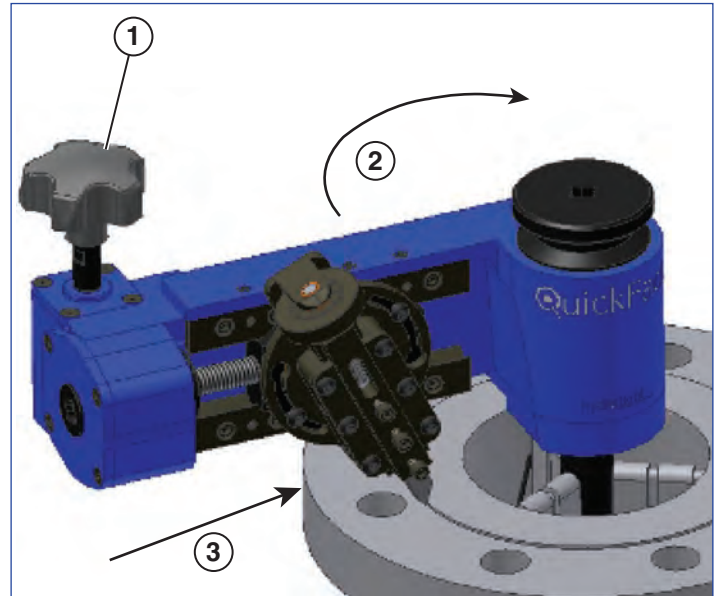

Figure 14
7. Grab the feed knob firmly in the palm of your hand. With a firm grip, pull the QuickFace around the work piece in a clockwise direction (**see Figure 14**). Make sure there is no loose clothing or other obstacles in the cutting path or within the QuickFace’s operating parameters. If the cut requires more torque than desired, back the tool bit out of the cut with the depth adjustment knob. **IF THE MACHINE CANNOT BE COMFORTABLY PULLED AROUND THE WORK PIECE, STOP THE OPERATION AND READJUST THE CUTTING DEPTH.**